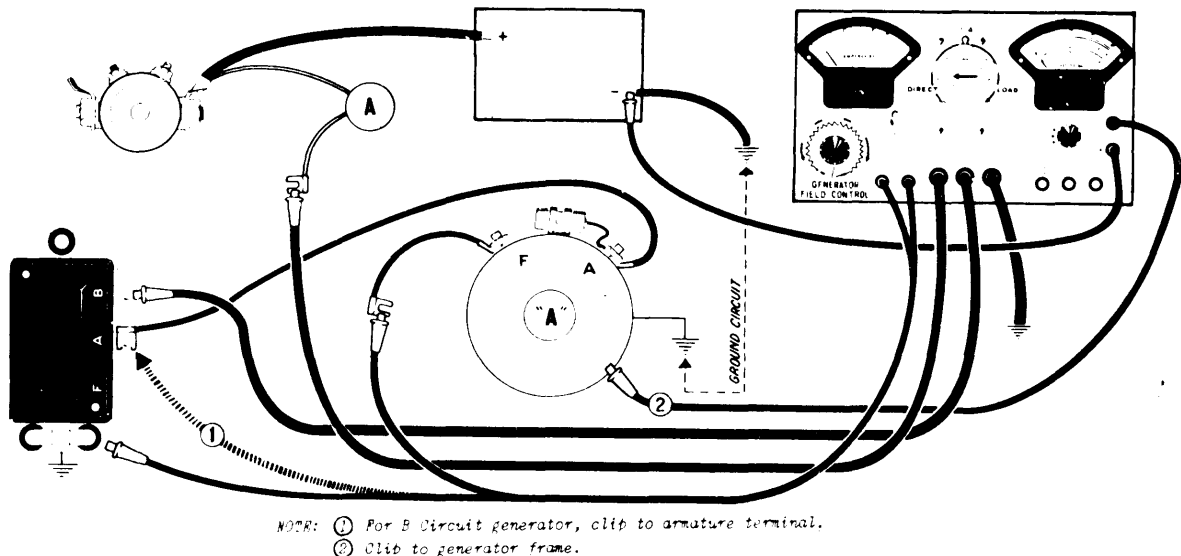

Figure 6. Ground Circuit Resistance, Test Connections
5-4. GROUND CIRCUIT RESISTANCE TEST - See Figure 6.
- d. For a B Circuit generator, remove the FIELD test lead from the base of the voltage regulator and clip to the armature terminal of the voltage regulator (See Note in Figure 6).